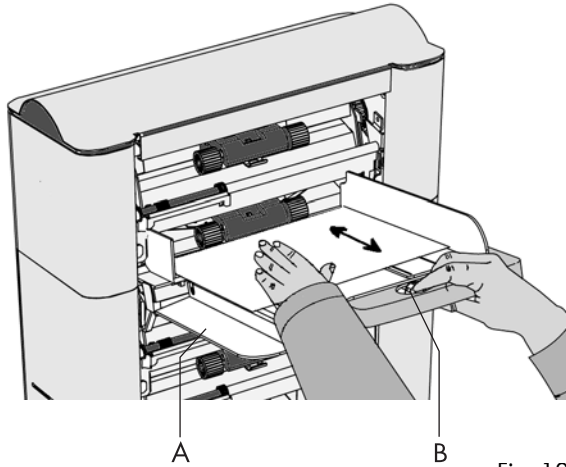

Fig. 12
- push the knob B (Fig. 12) forward until it clicks.
- open the left-hand side guide A (Fig. 12) by turning it downwards.
Pull the knob B (Fig. 12) back again when ready. Close the left-hand side guide.